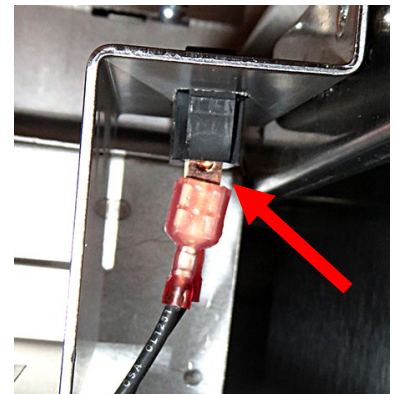

Figure 18
21. Connect both female terminals, from the harness in step 18, to the rear of the dispose bracket (see Figure 18).